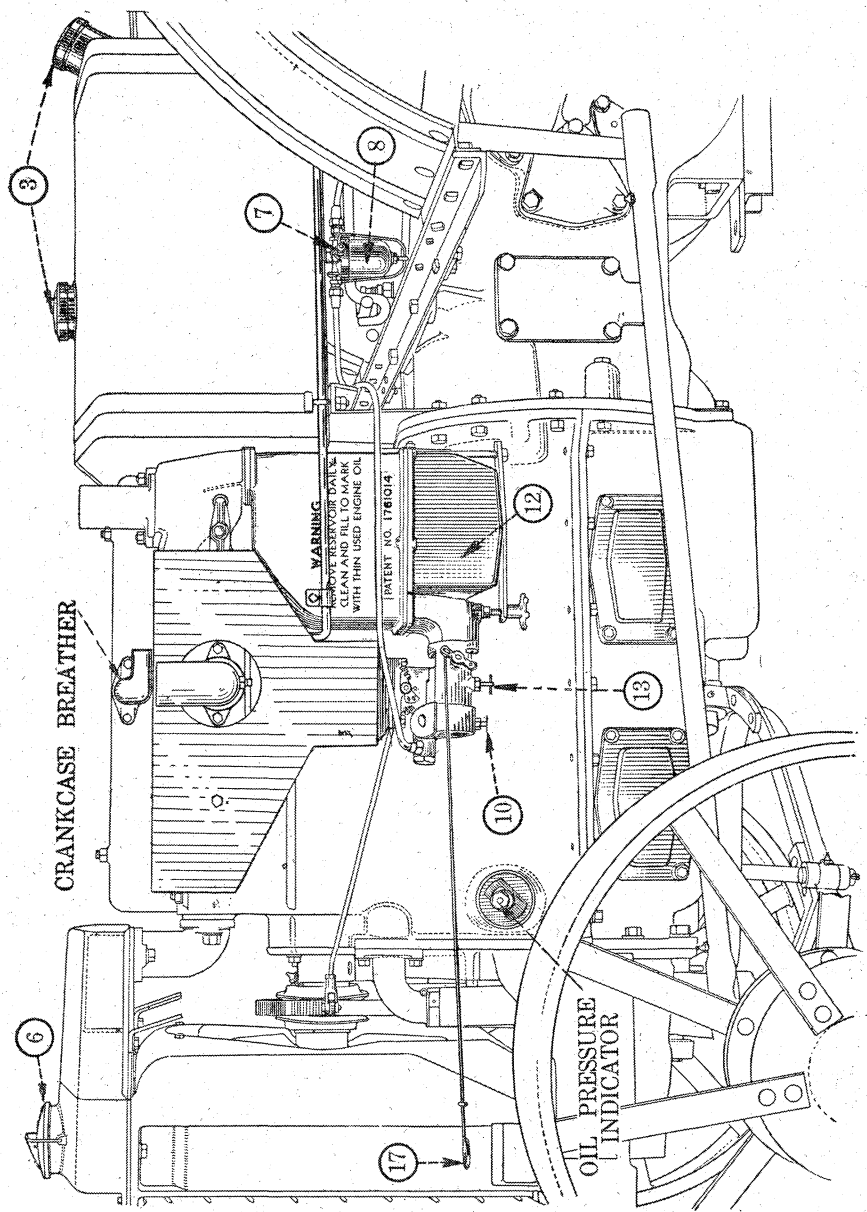

Fig. 3. L. H. Side of Case Model C Tractor
3. Fig. 3. Make sure that air vent holes in caps of fuel tanks are open.